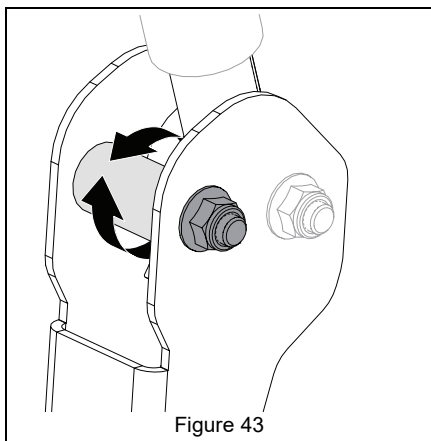

Figure 43
6. Adjust eccentric spacer so levers are at the same height and have a 1.3 – 2.5 cm (1/2 – 1") gap between lever ends. See Figure 43.